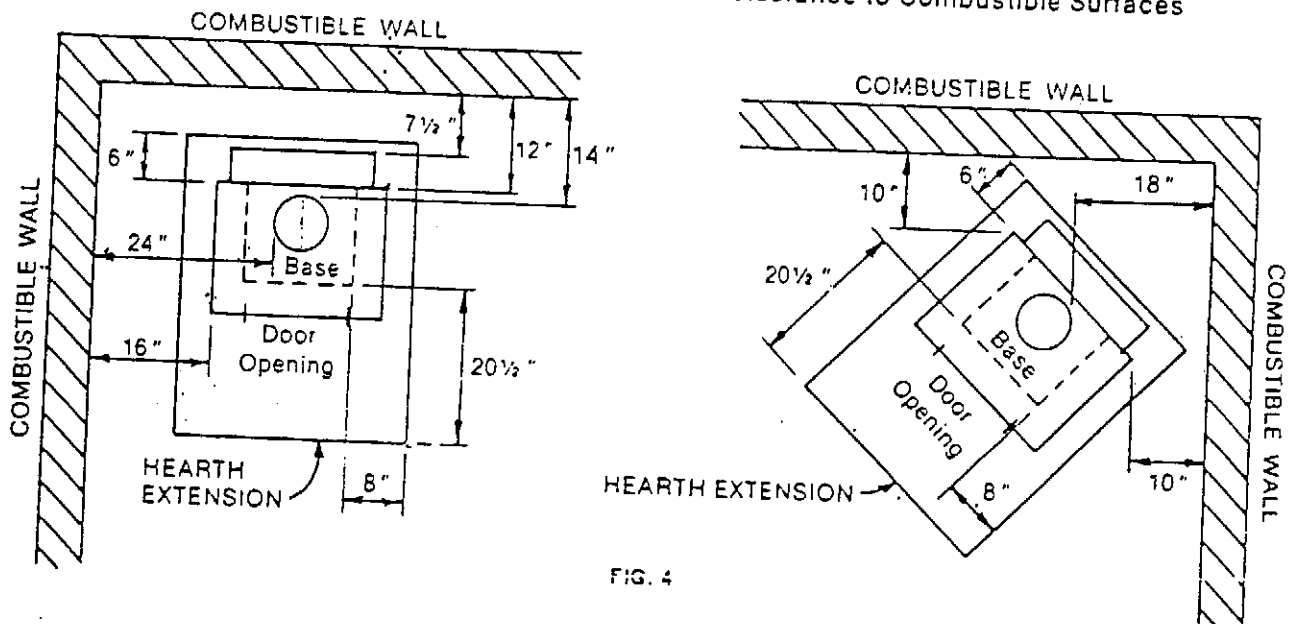

FIG. 4
The floor area below the stove must be protected with a hearth extension of ½ " minimum thickness non-combustible material, extending at least 8 " beyond each side and 20½ " in front of the stove base. See figure 4.
1. Set hearth and stove in location for marking holes in accordance with the dimensions listed on Fig. 4.